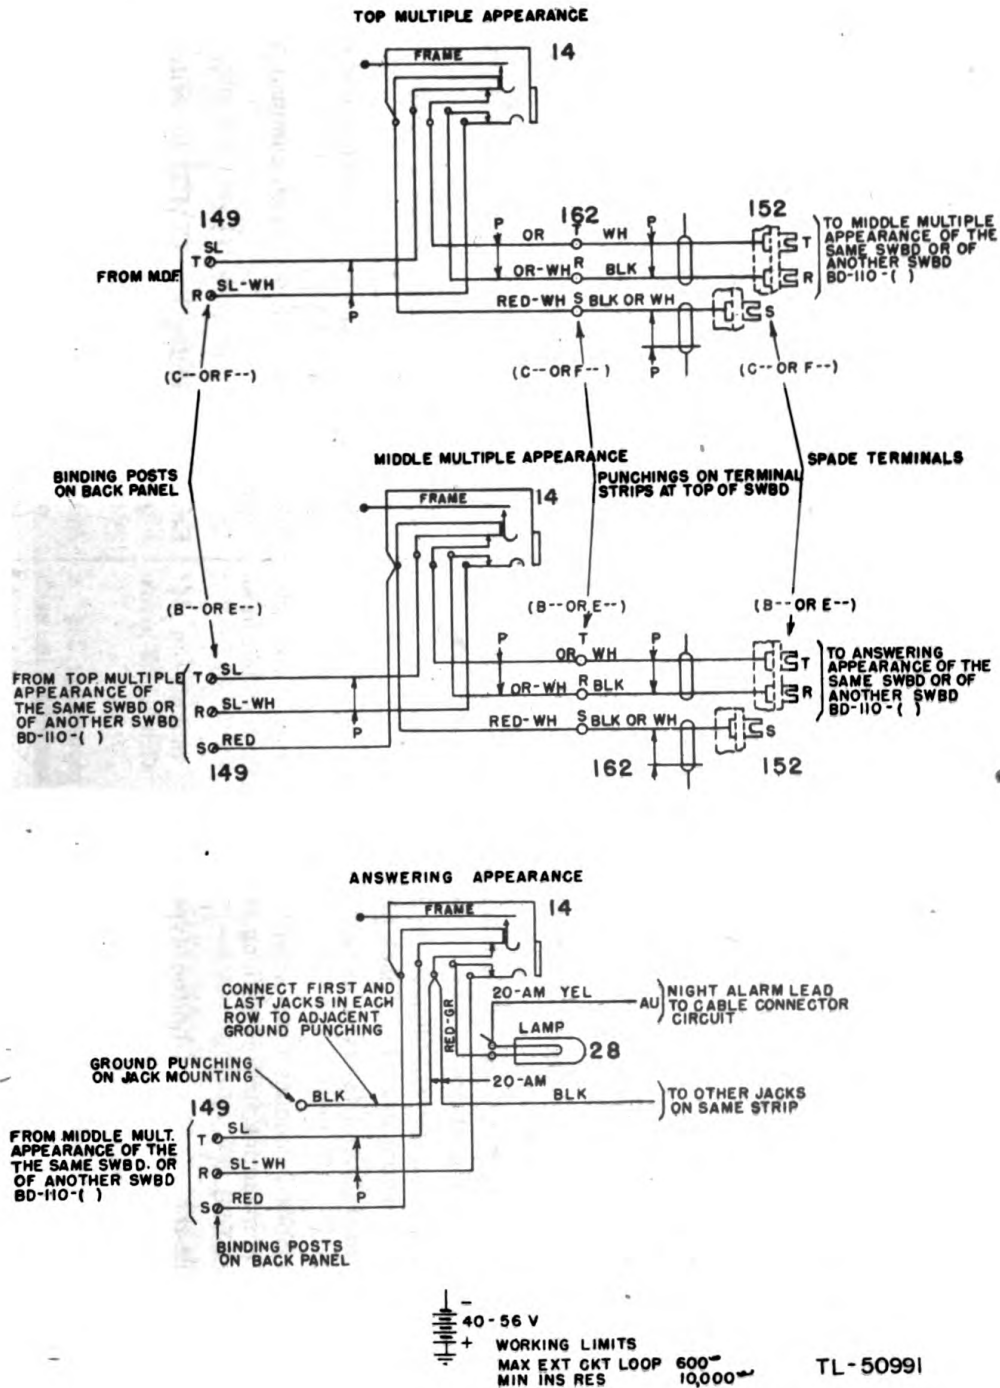

Figure 33. Common-battery line circuit, wiring diagram, Switchboard BD-110-().
d. Inspection of the common battery line circuit wiring diagram (fig. 33) shows that in the top multiple appearance, lines 110-149 appear as F--. The lines coming in from the main distributing frame connect to the binding posts on the rear terminal panel. In figure 29, lines F10-F49 appear in rows of binding posts designated as UR and LR (upper-right and lower-right, referring to the location of these lines on the main distributing frame). The lines then connect to the jacks, and in figure 20 lines F10-F49 appear in the top multiple on the right. The wiring diagram (fig. 33) shows the lines connecting to punchings on the terminal strips, and in figure 30 lines F10-F49 appear on terminal strip IV. Finally the lines connect to spade terminals, and in figure 31 lines F10-F49 appear in spade terminal strips 10, 11, and 12.
lines E10-E49, connecting to jacks in the middle multiple on the right, to punchings on terminal strip III, and to spade terminal strips 7, 8, and 9 which, in turn, connect to binding post rows 7, 8, and 9 on switchboard No. 1. Lines 110-149 can then be traced as lines D10-D49 to the jacks and lamps of the answering appearance, where they terminate, as shown on the wiring diagram (fig. 33).
f. The magneto lines and universal trunks can be traced through in the same general manner as the common battery lines with the use of figures 34 and 74 respectively in place of figure 33.
16. LINE CIRCUIT, COMMON BATTERY (fig. 33).
a. This circuit is suitable for use with telephones and circuits which require an external source of transmitter current and those which signal Switchboard BD-110-() by closing a d-c path. The d-c path is completed through a common battery telephone by removing the handset from the switch. This permits the current to flow through the line lamp (which is in series with the line and the telephone) and causes it to glow, thereby signaling the operator. The lamp receives its battery supply through the night alarm circuit which provides an audible signal. The lamp and ground are disconnected from the line when an answering (rear) plug is inserted in jack 14 (fig. 33). Transmitter battery is supplied from the cord circuit to the distant telephone. When the plug is removed, the line lamp and ground are again connected to the line and other calls may be received.